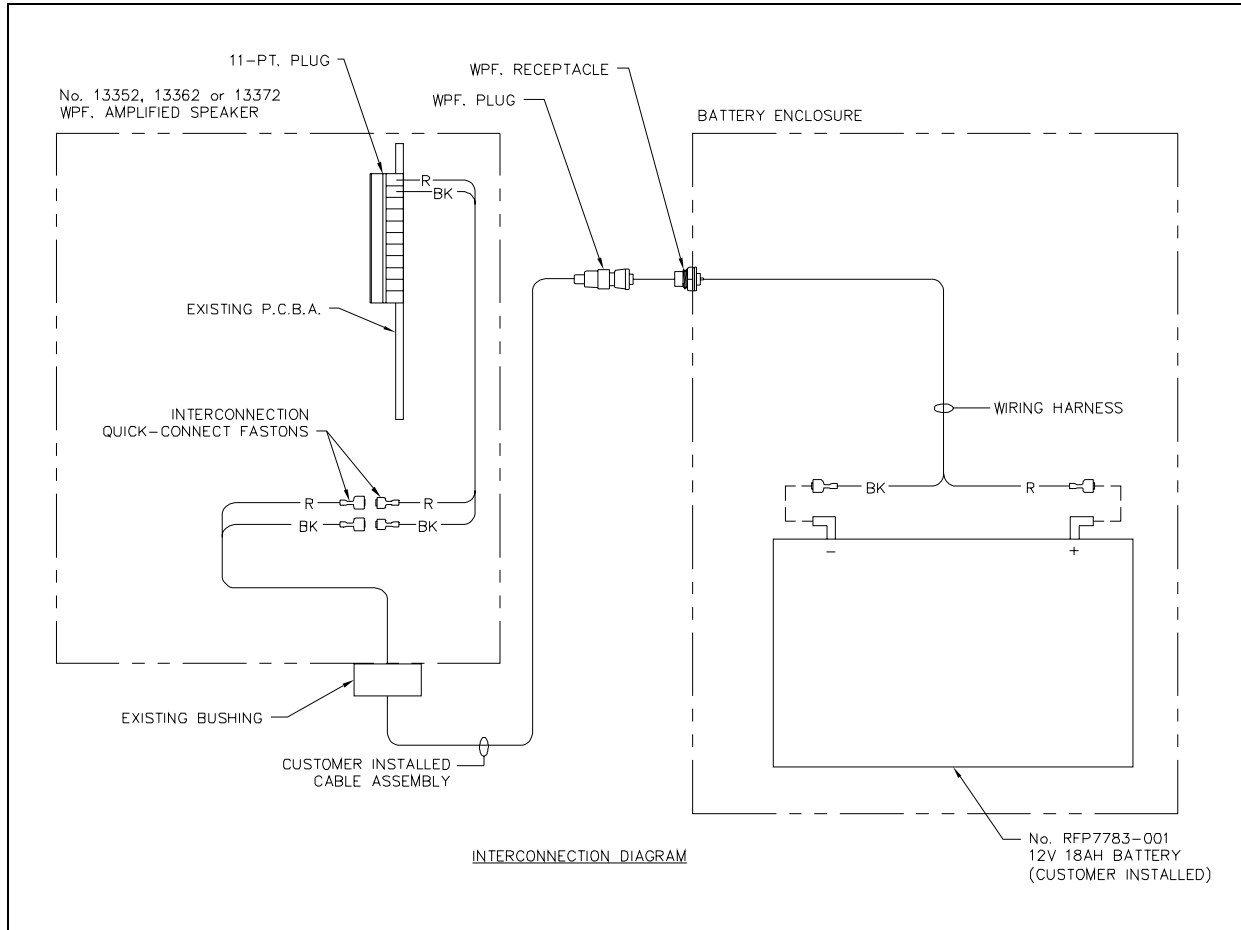

Figure 3. Interconnection Diagram
4. Connect the wiring harness's quick-connect fastons to the battery terminals: **red to positive, black to negative**. Refer to Figure 3.
3. Connect the 3/16-inch male quick-connect fastons from the weatherproof plug cable assembly to the existing 3/16-inch fastons already attached to the speaker's 11-point terminal strip plug. It is extremely important to follow the color code noted in Figure 3. **Failure to match red to red and black to black could result in damaged circuitry.**